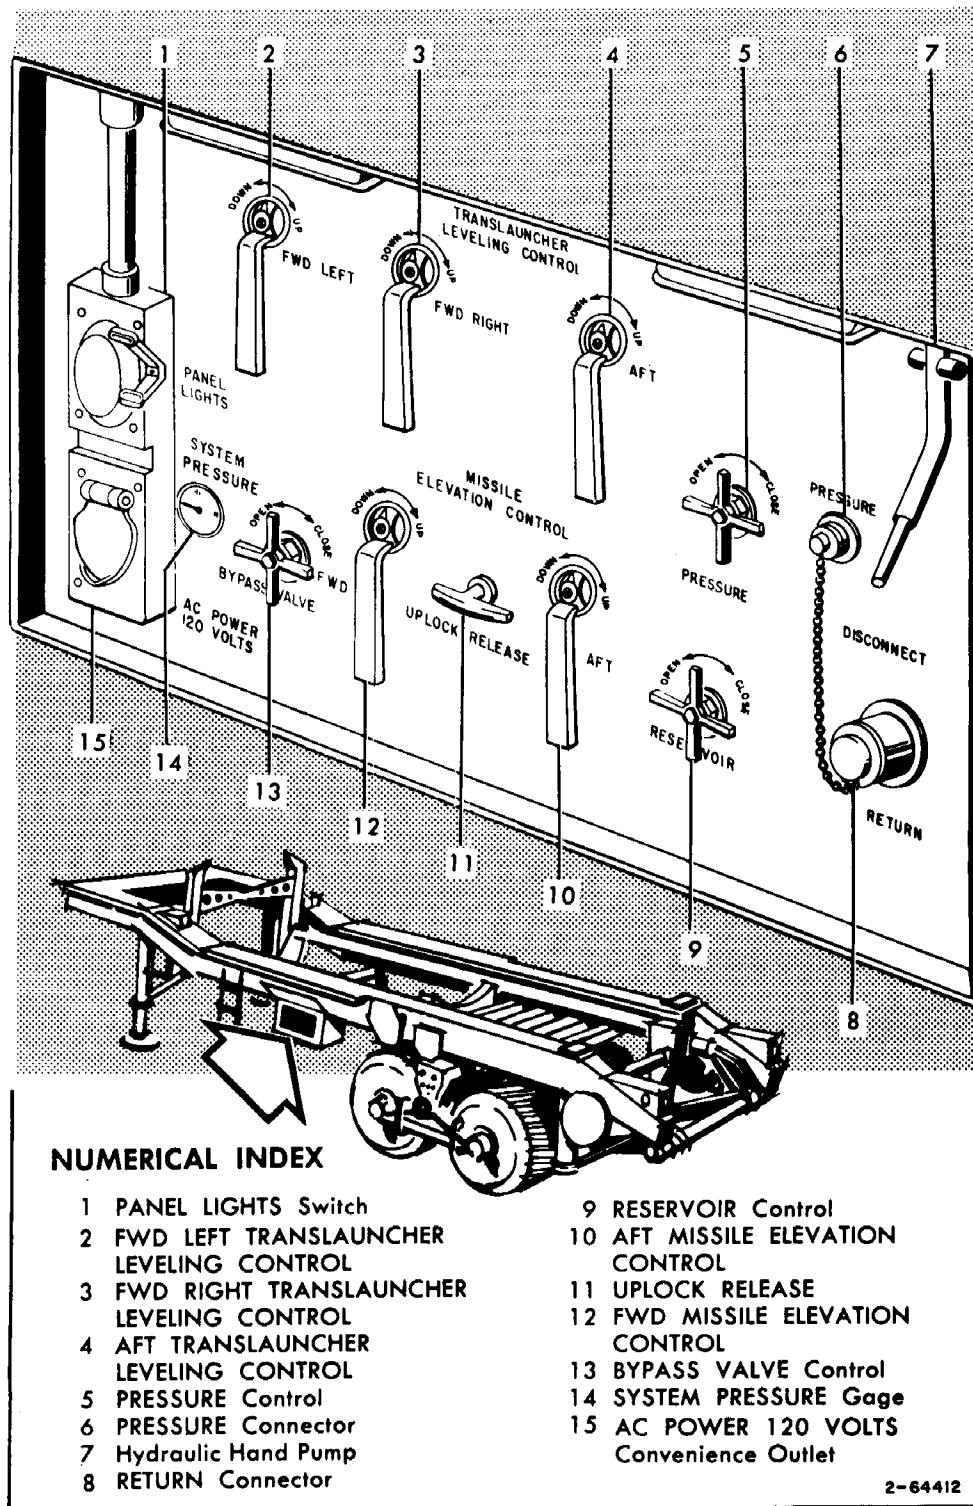

Figure 3-38. Translauncher Hydraulic Panel
- a. Insure that all lever controls on Translauncher Hydraulic Control Panel (figure 3-38) are in center position.
- b. Insure that BYPASS VALVE control (13) is OPEN and that PRESSURE control (5), and RESERVOIR control (9), are in CLOSE (cw).
- c. Remove dust caps from PRESSURE (6) and RETURN (8) disconnect fittings.
- c. Rotate PRESSURE control on Translauncher Hydraulic Control Panel (5, figure 3-38) to OPEN (ccw).
- d. Rotate BYPASS VALVE control to CLOSED (13), (cw).
- f. Place REAR AFT LEVELING CONTROL (4) UP or DOWN as required.
- b. Insure that BYPASS VALVE, control (13, figure 3-38) is open and that PRESSURE control (5), and RESERVOIR control (9), are in CLOSE (cw).
- c. Remove dust caps from PRESSURE (6), and RETURN (8) disconnect fittings.